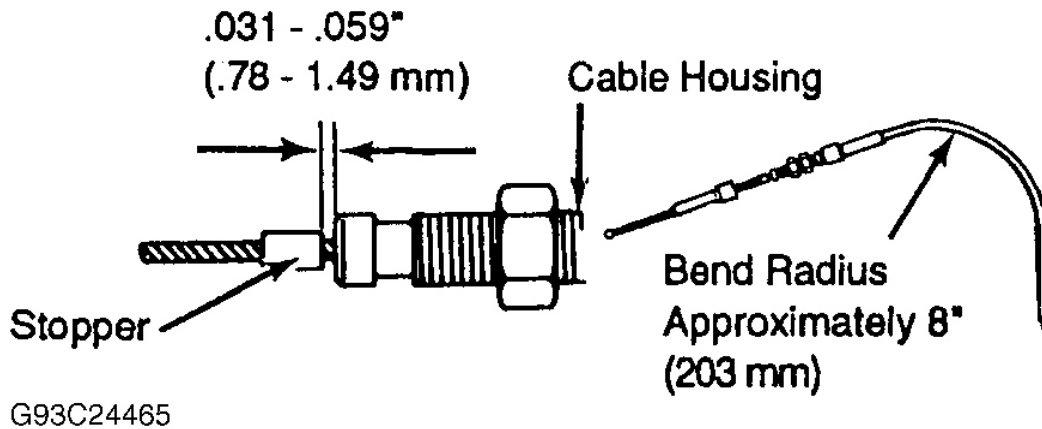

Fig. 1: Locating Throttle Cable Stopper
2. Pull inner cable lightly, until a slight resistance is felt, and hold in place. Stake stopper on inner cable, leaving a .031-.059" (.80-1.49 mm) gap between cable housing and stopper. See **Fig. 1**.